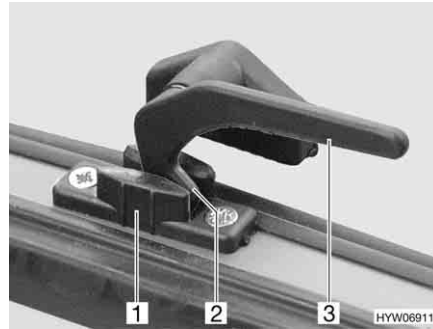

Fig. 66 Catch lever in the "continuous ventilation" position
- "Continuous ventilation" (Fig. 66)
- Turn the catch lever (Fig. 66,3) a quarter turn towards the centre of the window.
- Return the catch lever to its initial position. The locking catch (Fig. 66,2) has to be moved into the recess of window catch (Fig. 66,1).